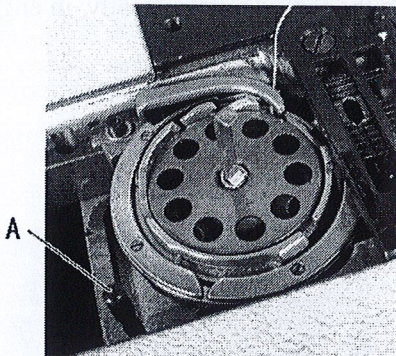
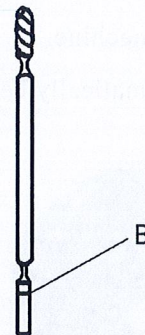

Fig.6
Fig.6-1
2. To fill the oil for reservoir of hook saddle from the hole after taken out the oil gauge (Fig. 6 A) and pour the oil until the oil level reached to the upper reference line of the oil gauge (Fig. 6-1 B) .